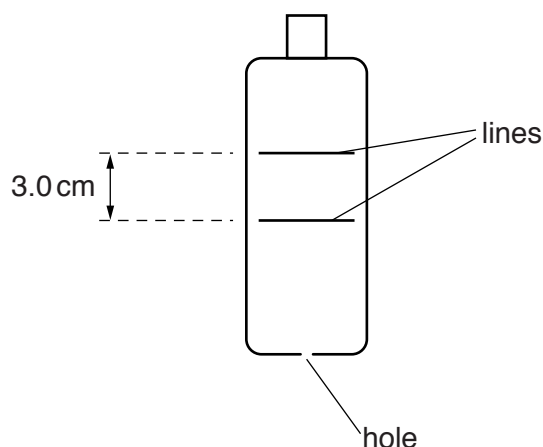

Fig. 2.1
- Each bottle should have two lines drawn on it 3.0 cm apart and near the middle of the bottle, as shown in Fig. 2.1. A permanent ink pen should be used.
- 2 One bottle should be labelled A using a permanent ink pen, and should have a hole of diameter 1.5 mm drilled in its base, as shown in Fig. 2.1.